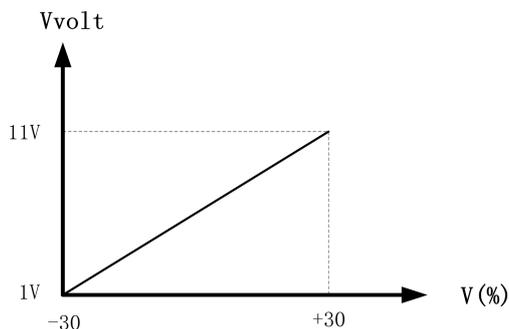

Fig. 4-20 Proportional diagram: preset welding voltage (synergic mode) V.S. voltage of analog signal from robot to welding machine
6. Under synergic mode, the proportional diagram between the preset welding voltage and analog output value from the robot to the welding machine is shown in Fig. 4-20.